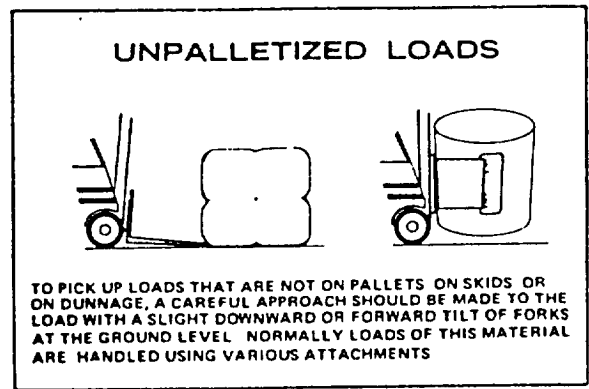

Figure 4-13. Unpalletized Load Handling
- Tilt the forks forward so their tips contact the floor (Fig 4-13).